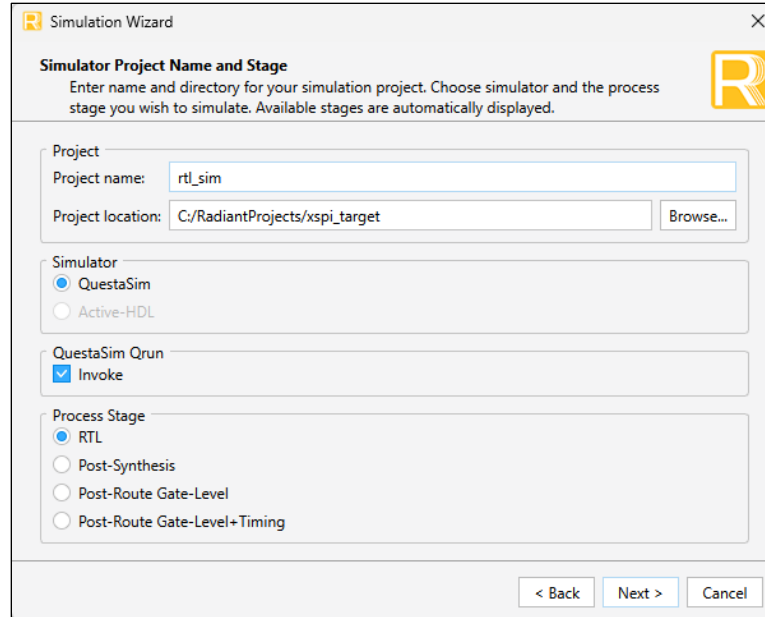

Figure 7.4. Simulation Wizard
1. Click the **Simulation Wizard** button  located on the toolbar to initiate the **Simulation Wizard** shown in Figure 7.4.